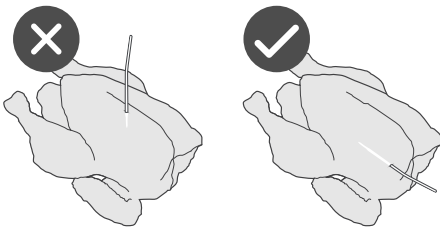

Figure 3.2
- a. For poultry, insert the probe horizontally into the inner thigh or breast. [Figure 3.2]